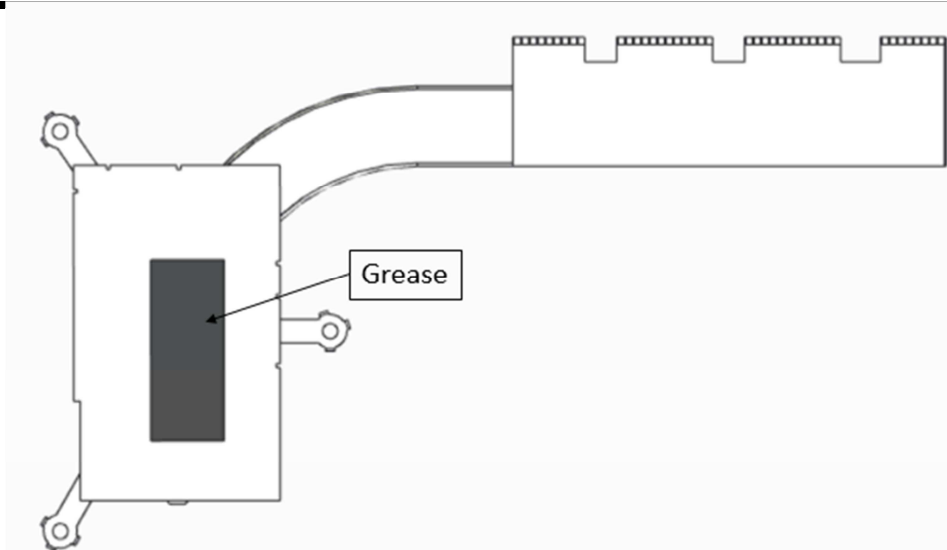

Figure 4-6 Checking the Thermal Pad on Thermal module
3. Check the greasy is attached on the thermal module as shown in Figure 4-6 .